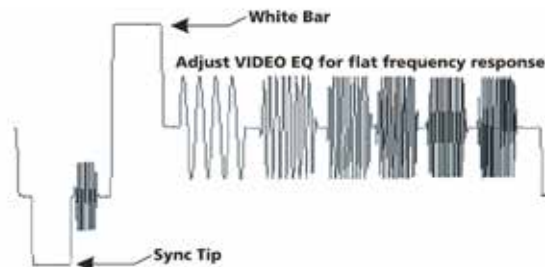

Figure 12. Multi-Burst Video Test Pattern
2. Connect a test pattern generator with a multi-burst test pattern to the source end of the video cable. Figure 12 illustrates a multi-burst video test pattern.
4. Set the monitor source select switch located on the front panel to analog video (A).
5. Set the cable equalization by turning the EQ potentiometer until the signal attains a flat frequency response (the frequency bursts are of the same amplitude as shown in Figure 12). Adjust the EQ potentiometer as follows: